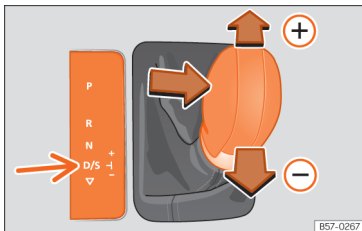

Fig. 221 Centre console: changing gear with tiptronic
- Move the selector lever forwards  to select a higher gear **>>> Fig. 221**.